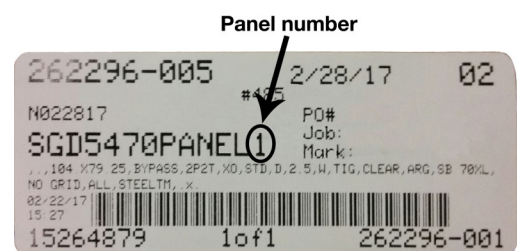

Figure 20
**14.** Locate the shipping label on all panels and identify the panel number (Figure 20).